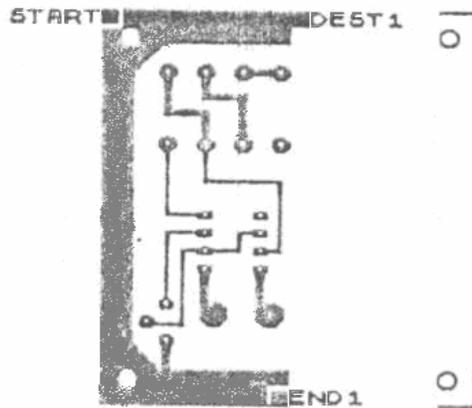

Figure 7.
- (iv) Move the 'cursor to position 'END1' shown in figure 7 below;